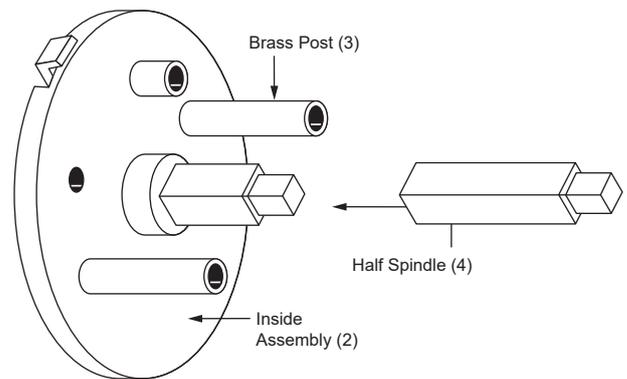

Fig. 2.
1. For older doors (B) drill an additional 8mm hole, shown as a broken circle, from 'inside' door face (snib side), after which installation is identical for A. and B. doors.
2. Fit Gainsborough 'dual sprung tubular latch' (1)
3. Insert two short screws through the 'inside assembly' (2) and firmly attach 'brass posts' (3).
4. Locate special half spindle (4) into square hole in 'inside assembly' (2) and insert 'posts' (3) and 'spindle' (4) through latch until assembly makes firm contact with door face. See fig. 2.